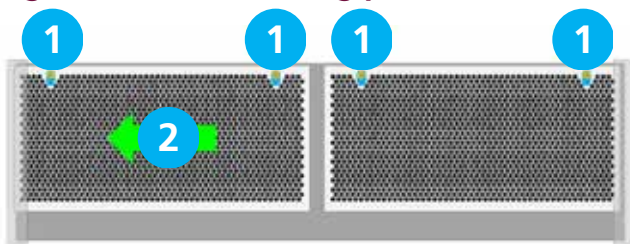

Figure 9.1 GS cover fixing point
2. GS units, Loosen (DO NOT REMOVE) the screws in the top of each front inlet cover [1] (see figure 9.1 and 10 dog bone slot) then slide the left cover to the left [2] which will allow the cover to slide under the end cap. This will allow the next cover to be pushed to the left [3] (see figure 9.1) allowing it to be released from the screw slot [4] by pulling forward and lifted upwards out of the lower groove in the case.